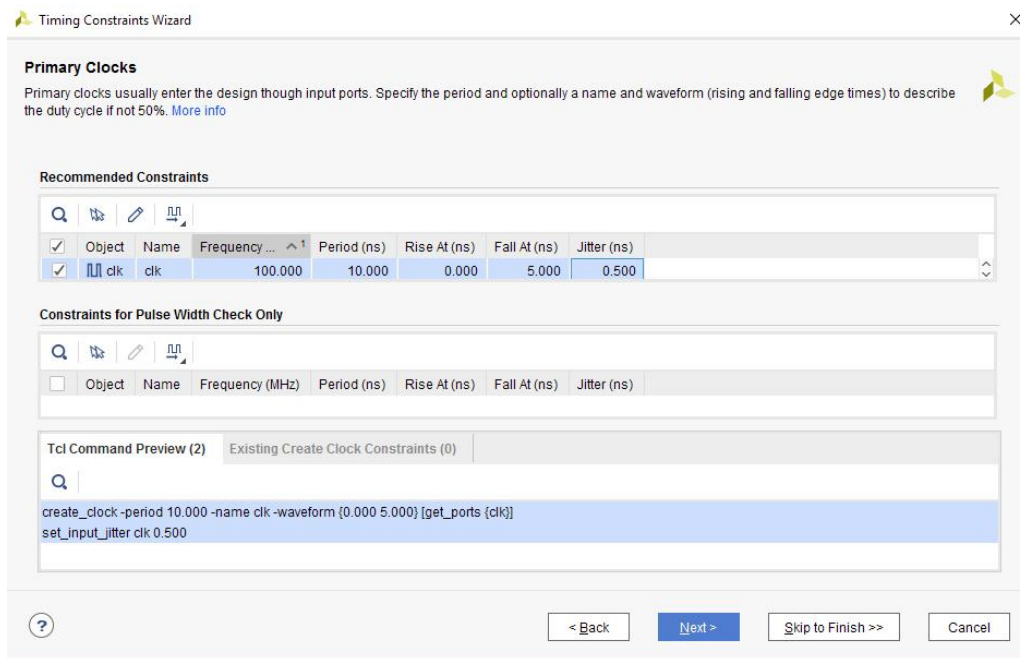

Figure 48
6. Check if everything is correct (Figure 48) and click **Next**